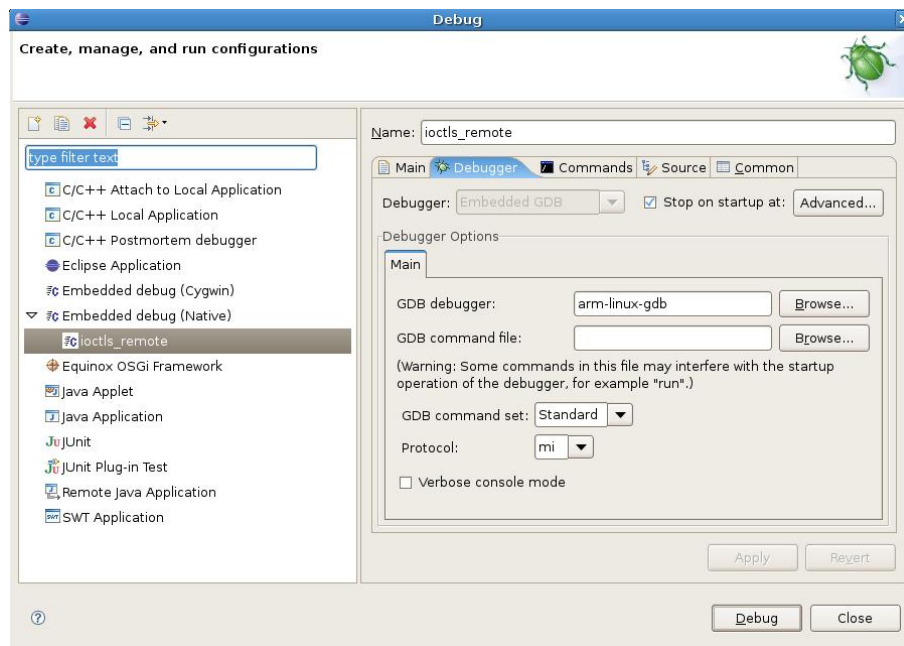

Figure 26: Eclipse debug: Debugger tab
- choose `Debugger` tab (see Figure 26)